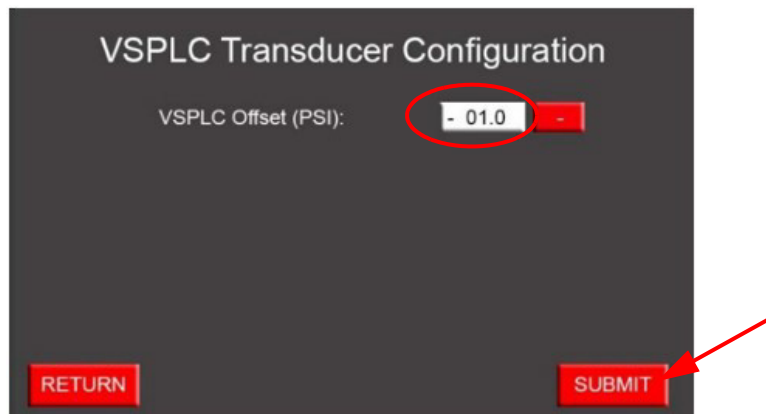

Figure 4-12 VSPLC Transducer Configuration
5. As shown in Figure 4-12, press the VSPLC Offset (PSI) data field to activate the popup keyboard and enter the desired pressure offset.